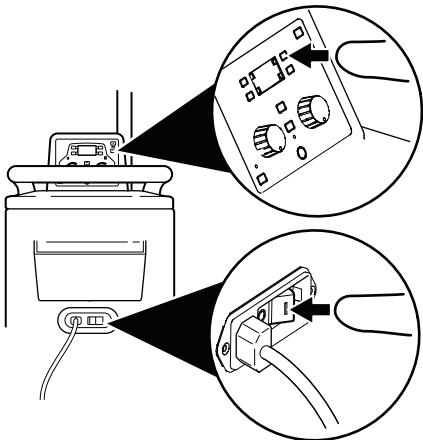

Figure 9 To Access System Setup
3. Push the control panel display button and the power button to ON simultaneously (see figure 9).